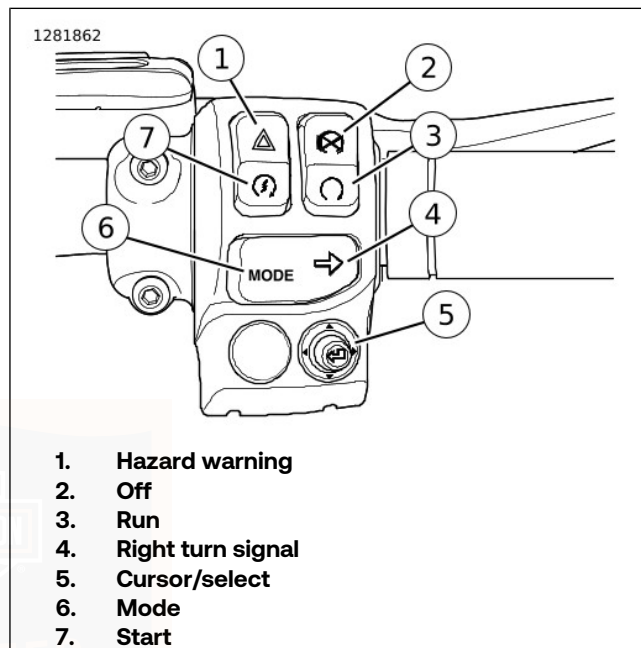

Figure 34. Right Hand Switch Module
See Figure 34. The hazard switch (1) is used to leave a stranded motorcycle in the 4-way flashing mode. With the
See Figure 34. Press the OFF/RUN switch to OFF (2) to disable propulsion. Refer to Table 42.
See Figure 34. Push the OFF/RUN switch to RUN (3) to enable start switch. The OFF/RUN switch must be in the RUN position to enable propulsion. Refer to Table 42.
See Figure 34. Press the right turn signal switch (4) to activate the right turn signal. Refer to Table 42.
See Figure 34. The CURSOR/SELECT five-way switch (5) operates IM features. Refer to Table 42.
See Figure 34. Press the MODE switch (6) to cycle through and select the desired ride mode. Refer to Table 42.
See Figure 34. The start switch (7) is on the right handlebar control module. Refer to Table 42.
1. Switch the OFF/RUN switch to the RUN position (3). See OPERATION > STARTING MOTORCYCLE (Page 123).